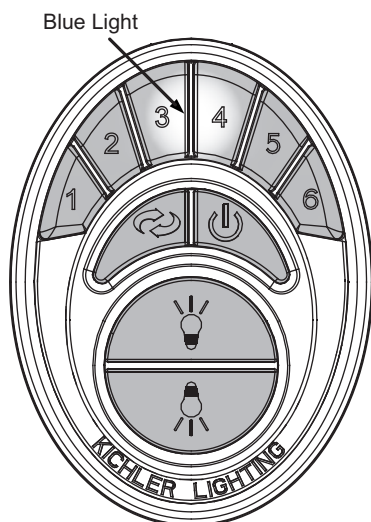

Fig. 13
3. Test the transmitter by pushing and releasing ANY button briefly. A Blue Light should illuminate under the 3-4 buttons. (Fig. 13) If not, check to make sure the batteries are inserted and seated correctly.